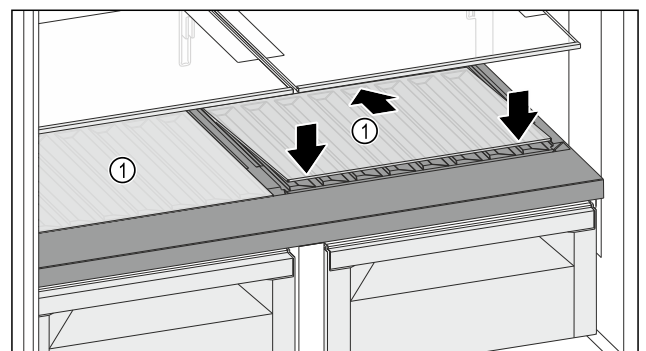

Fig. 124
- Place the glass shelf Fig. 124 (1) at an angle, sloping it downwards and backwards.
- Lower the glass shelf Fig. 124 (1) at the front.